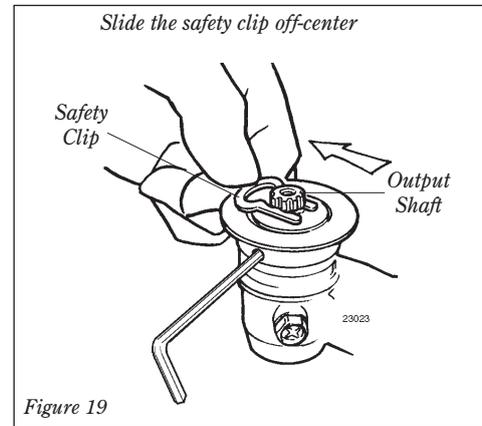

Figure 19
3. Fit the blade over the safety clip and then center it over the flange on holder "A". See Figure 19.